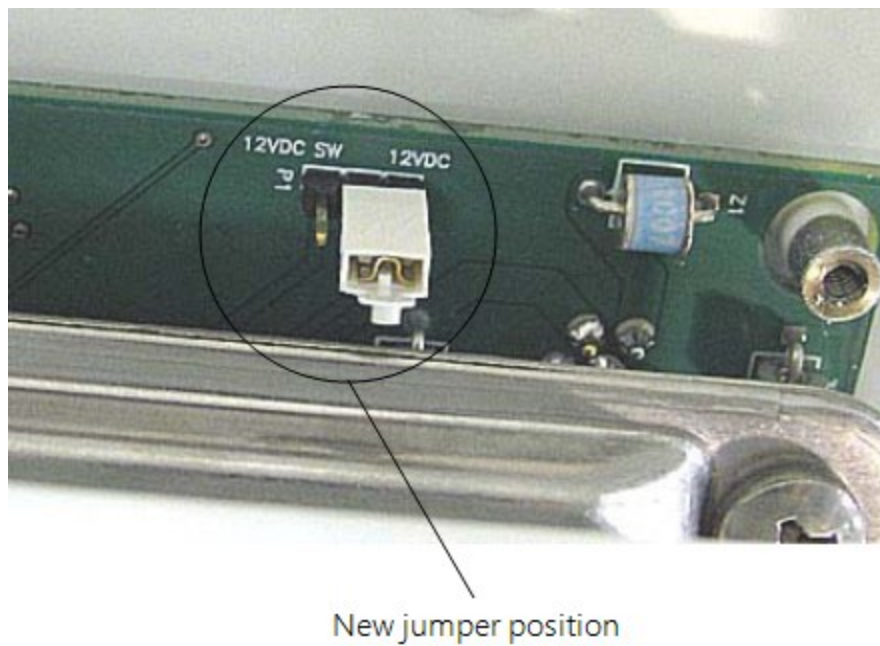

FIGURE 6-15. Jumper set for WindSonic1
5. Move the jumper at the top of the PCB so that it is placed over the center and right pins (FIGURE 6-15 (p. 28)).